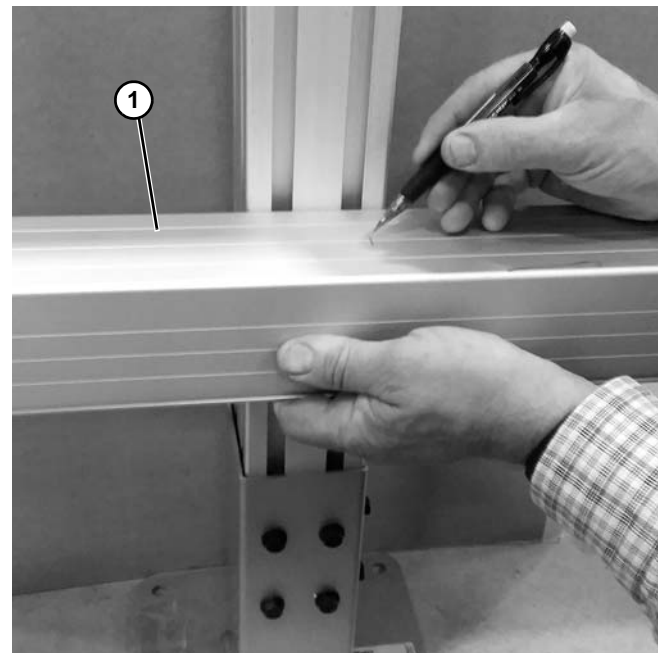

Figure 3
5. Determine locations to drill holes in enclosure to mount to stand, crossmembers, side rails (**Figure 3, item 1**), or automation module beams.